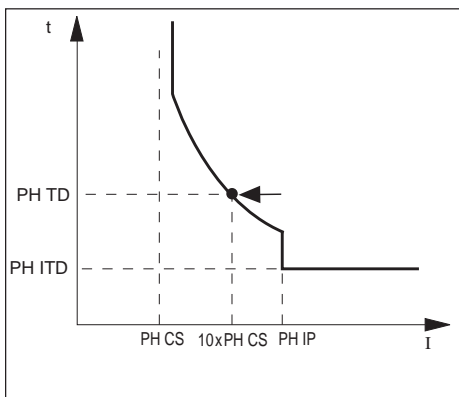

Figure 65: Time delay check (10 x PH CS)
**Time Delay Check (10 x “PH CS”)** For inverse-time-overcurrent curves (figure 65), measure the time delay at 10 x “PH CS” to find the set value of “PH TD.” Follow these steps: